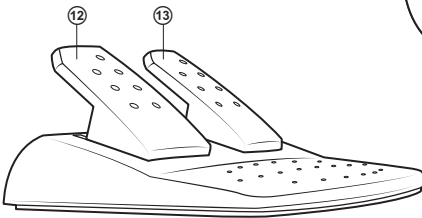

Fig. 3. Foot pedal unit
- Connect pedal unit to the device (Fig. 3) via cable of the pedal unit to RJ-11 jack ⑭, then connect USB cable ⑮ of the device to the USB port of the computer.